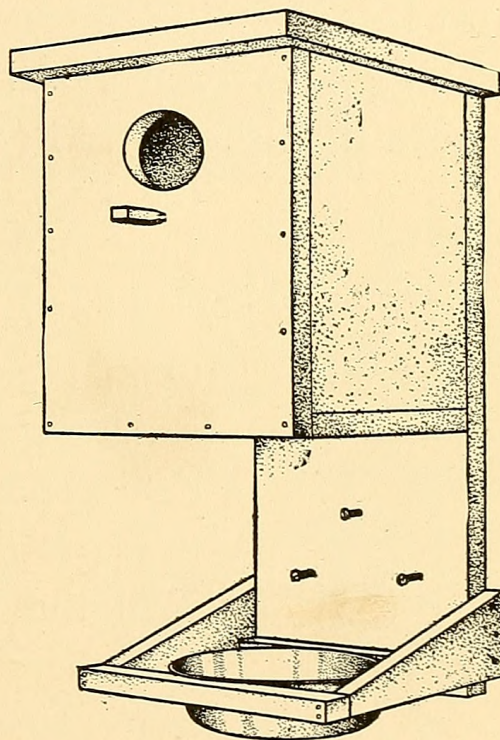

FIG. 482. — Another Box Bird-house with a Pan for Drinking Water.
**Another Box Bird-house** is shown in Fig. 482. This is similar to a house which the boys of some of the Chicago public schools have constructed and placed in the trees of the parks, with the addition of the pan bath. The illustration shows clearly how the back, sides, and roof